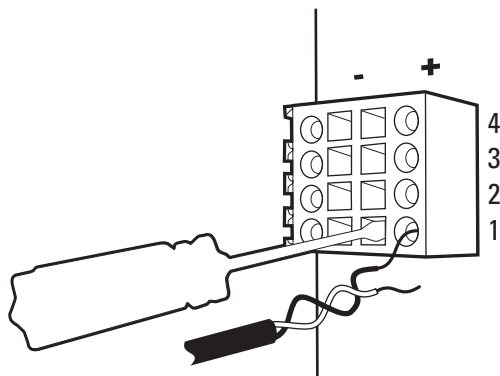

Figure 3. Terminal Block UTP Connections
2. Insert each wire into the appropriate holes. Figure 3 shows the UTP wires for channel 1.